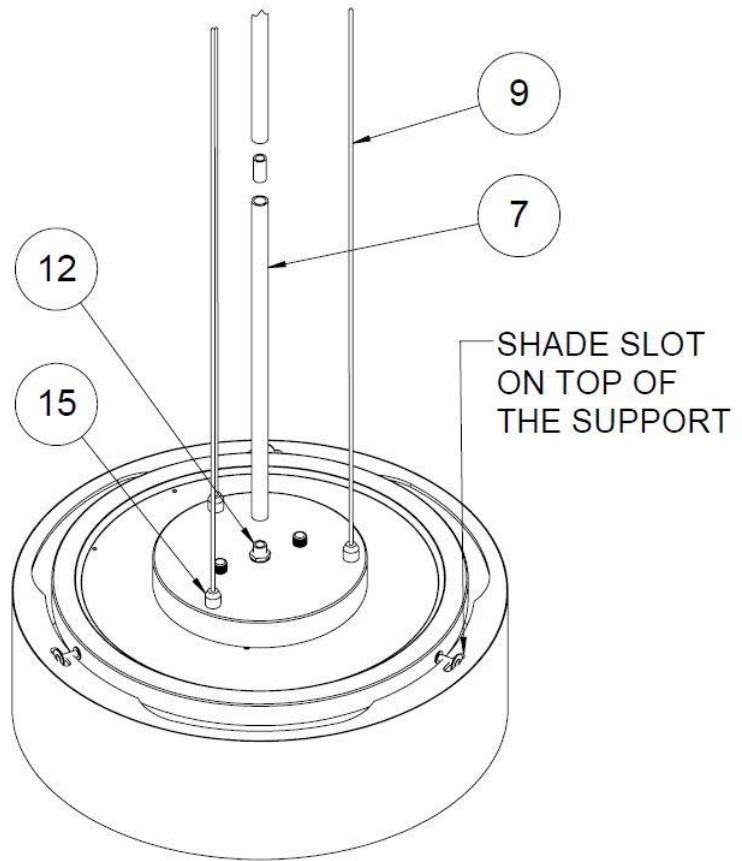

FIG 2
- For NEC (National Electrical Code) requirements, cut the wire about 7" above the canopy (4) and then strip 3/8" from the ends of the four color coded wires.
- Connect the white wire from the fixture to the white (N) wire from supply power source.
- Connect the black wire from the fixture to the black (L) wire from supply power source.
- Line up the two holes in the canopy (4) with the two screws in the mounting bracket (1). Secure fixture to screws (3) with two finials (6).
- Adjust the aircraft cables up and down by pressing the "Spring Pin" (14) upward and holding until the proper cable length is attained.
Step 6 – Mounting Diffuser (Fig 2)
- The diffuser (13) has three notches in its upper flange. Align these large notches with the shade mounting support (10) on the outside of the fixture (11), and push the diffuser up slightly pass the mounting support.
- Rotate the diffuser clockwise or counterclockwise until the mounting support (10) rest within each diffuser slot. **Note:** all 3 mounting supports must be inside the shade slot.